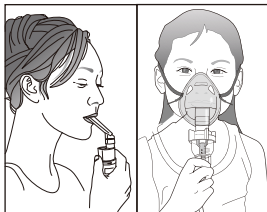

Figure 7
7. Insert the mouthpiece into your mouth, or place the mask over the nose and mouth. (See Figure 7)